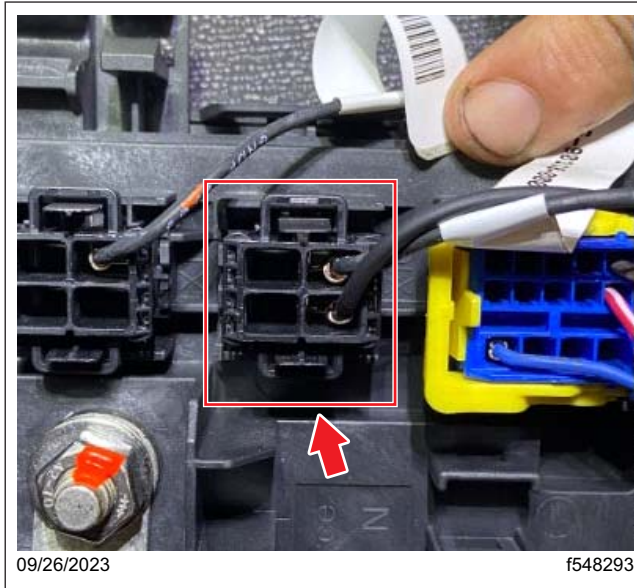

Fig. 25, X10 Connector Plugged into the SSAM
- 8.9 Plug the X10 connector back in the SSAM. See Fig. 25 .